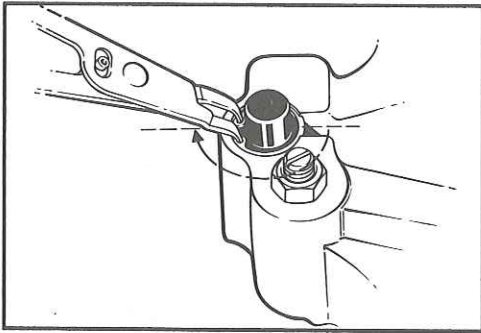

Fig. 47
6. Rotate the retaining ring so that the ears are located away from the slot in the housing as shown in Fig. 47.